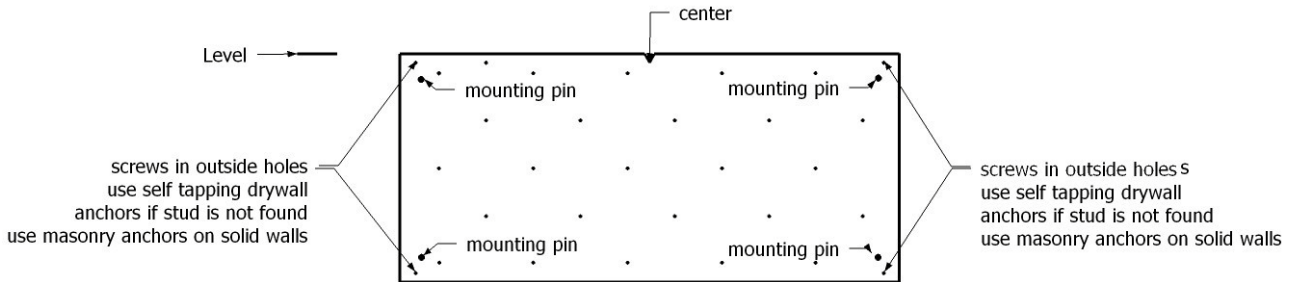

Figure 1
3. Place the Installation Plate supplied to the horizontal line and line up the center "V" cut out with the center line. **See Figure 1.**
7. The mounting plate has four location pins, one at each corner of the plate. **See Figure 1.**